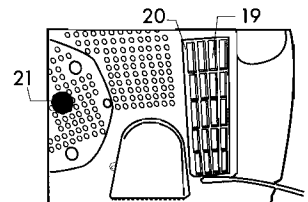

Fig. 23
Clean the vacuum filter (20) at regular intervals. To do so, disengage the filter cover (19), Fig. 23. Shake the filter and wash it with clean water if necessary. Reposition the filter in its seat and refit the filter cover (19).